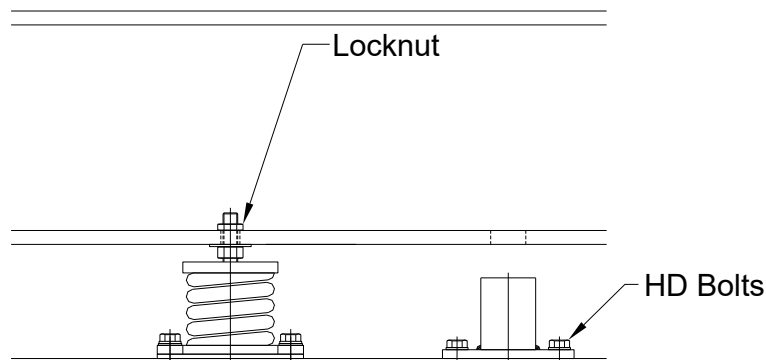

Figure 2
5. Isolator screws should then be wound up until contact with machine under base is made. After removal of blocks the machine base can be carefully lowered evenly across supported area, transferring full weight to the isolators. Further machine height adjustment can be achieved by relieving load on isolators and winding adjusting screw up or down, isolator H.D. bolts and top lock nuts should now be fully tightened (See Figure 2). Ensure at least 3 full threads are left protruding below the upper plate.